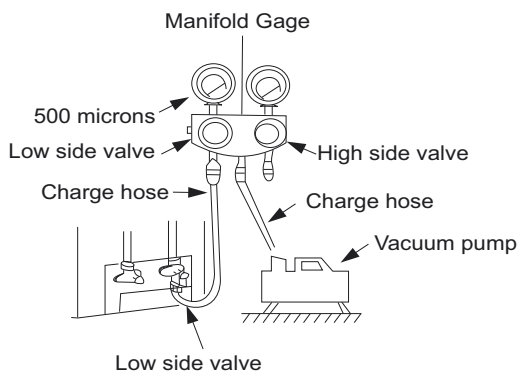

Fig. 16 —Manifold
Refer to Fig. 16 and proceed as follows:
5. Repeat this procedure as indicated in Fig. 16. The system will then be free of any contaminants and water vapor.